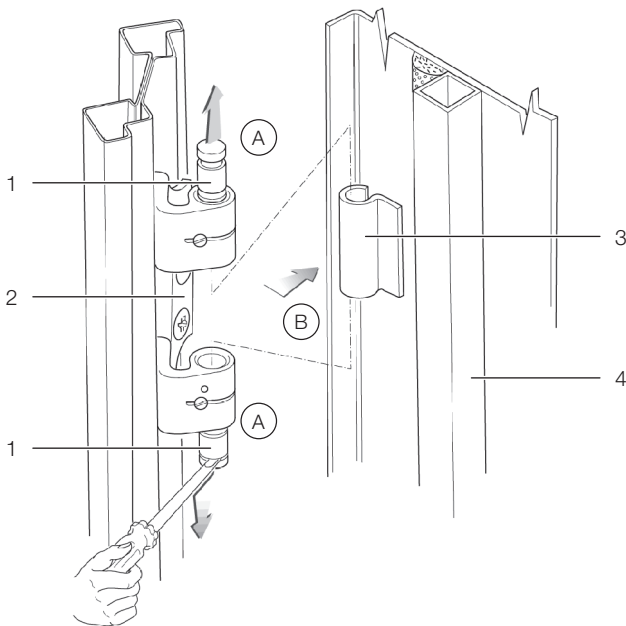

Fig. 13: Removing a door hinge
- Loosen the hinge bolts from the four door hinges by raising them with an appropriate tool (e.g. screwdriver). Pull the bolts out of the hinge pin holding fixture as far as they will go (see fig. 13, step A). Begin with the lowest door hinge.
- Remove the server enclosure door (fig. 13, step B).